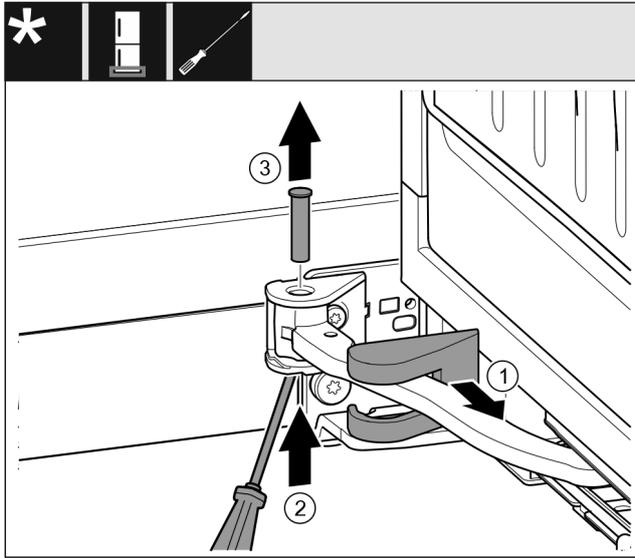

Fig. 18
- ▶ Remove the swap bearing block cover Fig. 18 (1) and slide along the joint.
- ▶ Use a screwdriver to lift the bolt Fig. 18 (2) from below.
- ▶ Pull out the bolt Fig. 18 (3) from above.